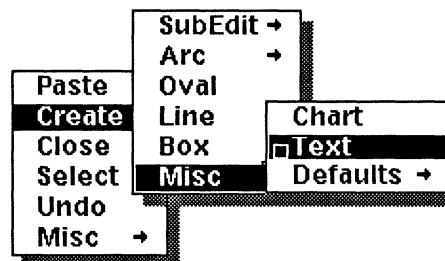

Figure 23-6. Create Misc Text command
- ✓ Choose **Text** from the **Create Misc** submenu (Figure 23-6).